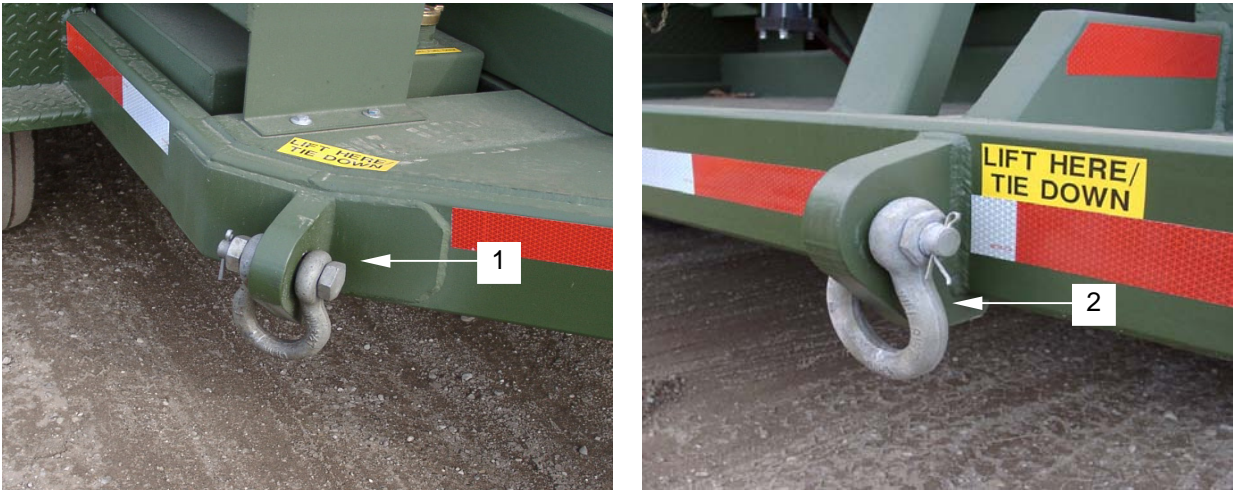

Figure 55. Lifting and Tiedown Points
Use the tiedowns on the WWET/T frame to lift the WWET/T, or to secure it to a flatbed truck or rail car. These tiedowns are located at the front (**figure 55, item 1**) and rear (**figure 55, item 2**) of the trailer frame.